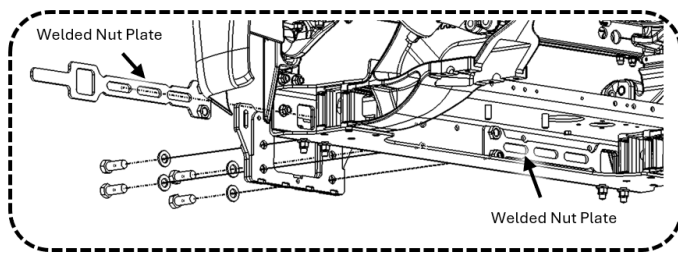
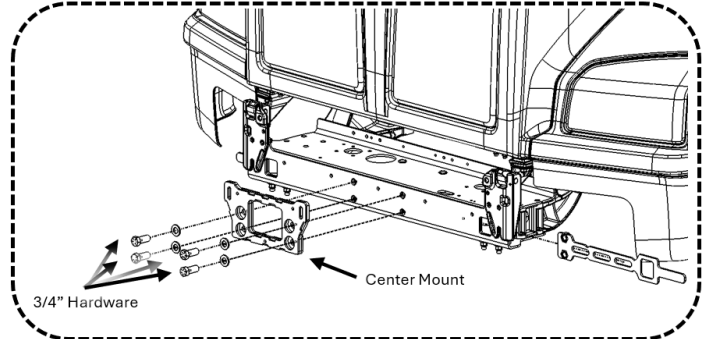

Figure 2a: Welded Nut Plate Installation – Rear View
Figure 2b: Center Mount Installation
2. Place the Welded Nut Plate behind the crossmember and use 3/4" provided Hardware to secure the Center Mount into the Welded Nut Plate; see Figure 2a and Figure 2b.